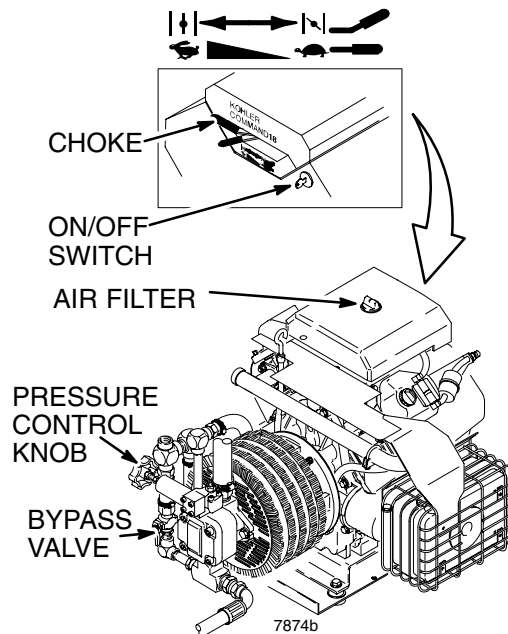

Fig 5
4. Turn the pressure control knob *counterclockwise* until all spring tension is relieved. You will be able to feel it. The sprayer is now set at the lowest pressure setting. Turning the knob further will remove it. Tighten the knob locknut to set. See Fig 5.
5. Open the bypass valve. The valve lever will be parallel to the body of the valve. See Fig 5.
7. Close the choke by moving the choke lever. See Fig 5.
8. Turn and hold the ignition key to START until you hear the engine "catch", then release the key to RUN. See Fig 5. If the engine does not start, open the choke a little (move lever). If the engine floods, open the choke all the way and try again.
9. After the engine is warm, gradually open the choke lever (move lever) and close the bypass valve. See Fig 5.